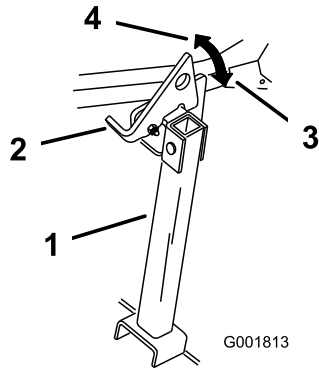

Figure 44
2. Raise the latch to the unlocked position (Figure 44).